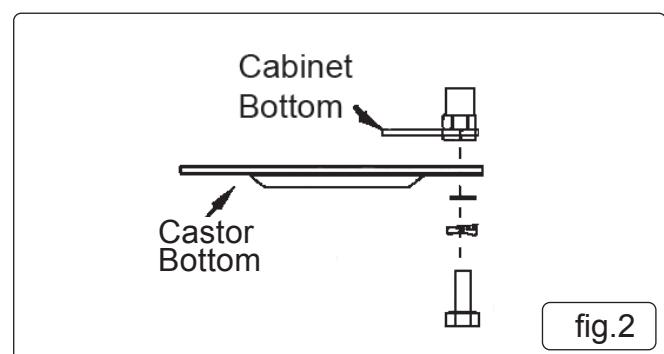

fig.2
- 3.4.1. Roll cabinet is supplied with heavy duty castors, including two swivel castors. Fix as shown in fig.2.